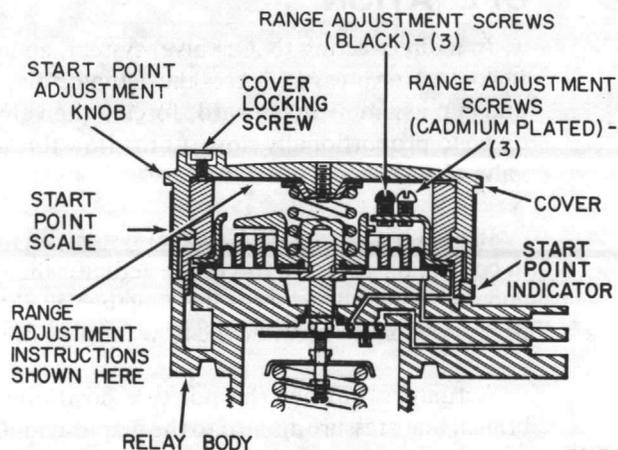

Fig. 2. Adjustment Points of MO953/MP953A and B Gradutrol Relay.
1. Using wrench, loosen the cover locking screw (Fig. 2).
1. Tighten the cover by turning it until it bottoms on the relay body (Fig. 2).